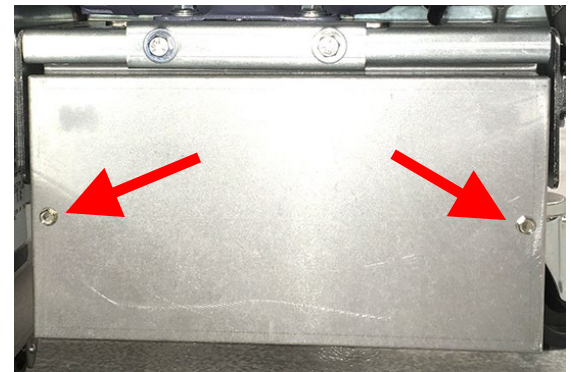

**Figure 7**
9. Remove the filter pan (see Figure 7).